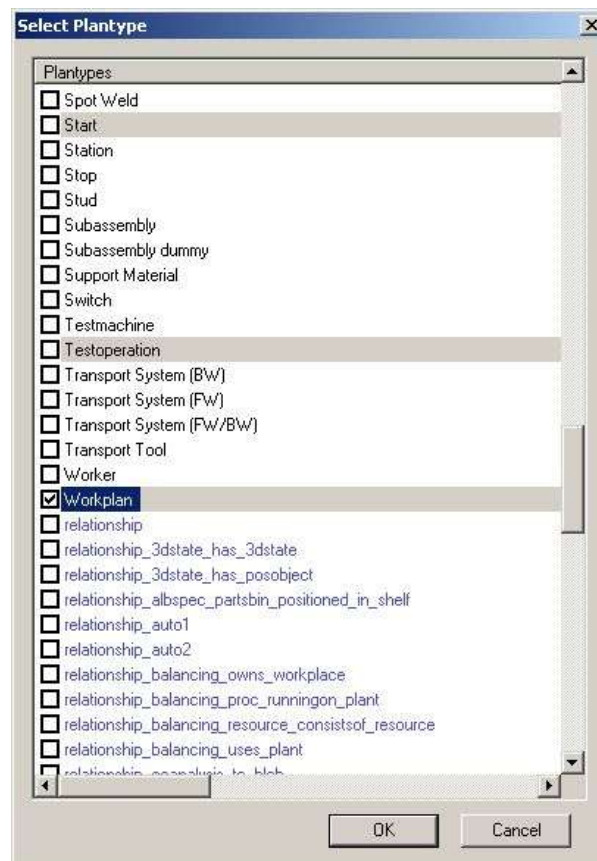

Figure 194: Dialog Select Planttype
- 7) If you select **Show all attributes selection list...**, all existing attributes of the plantypes are displayed in a window. If you select an attribute, it is shown for the profile. *Please refer to the Figure 194.*